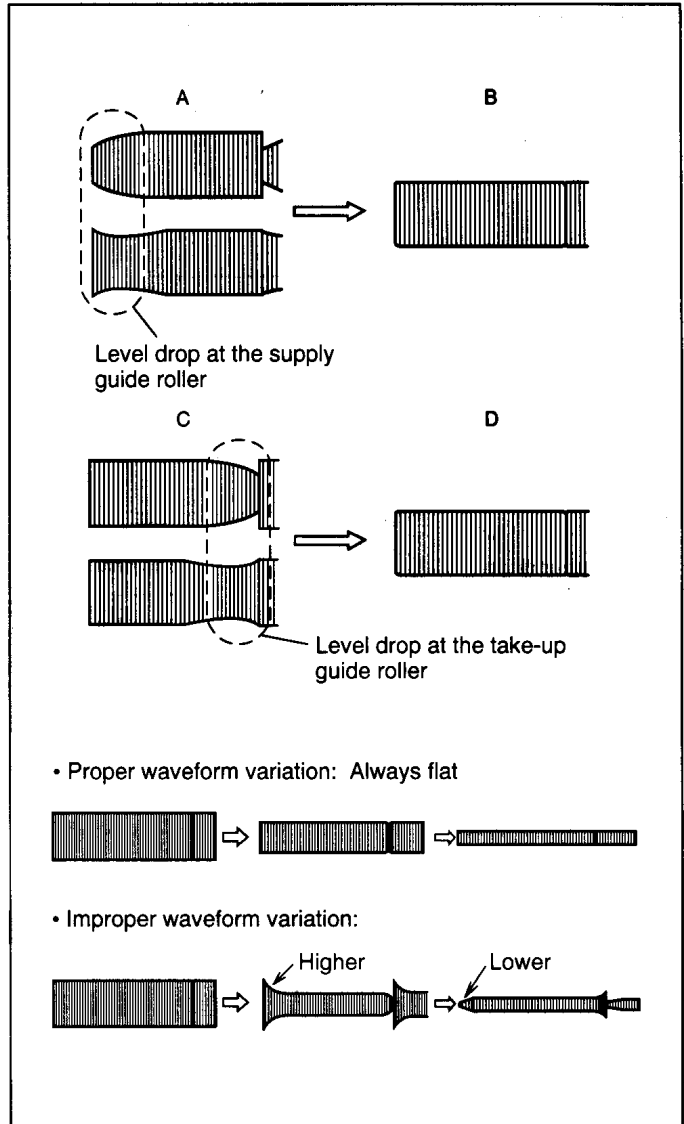

Fig. 2-3-3
- (5) Reduce the FM waveform while pressing the channel buttons (▲, ▼) during playback. If a drop in level is found on the left side, turn the guide roller of the pole base assembly (supply side) with the roller driver to make the FM waveform linear. If a drop in level is on the right side, likewise turn the guide roller of the pole base assembly (take-up side) with the guide roller to make it linear. (See Fig.2-3-3.)
- (6) Then play tape (EP) and make sure that the FM waveform varies in parallel and linearly with the tracking operation. When required, perform fine-adjustment of the guide roller of the pole base assembly (supply or take-up side).
- (7) Unload the cassette tape once, play the alignment tape (EP) again and confirm the FM waveform.